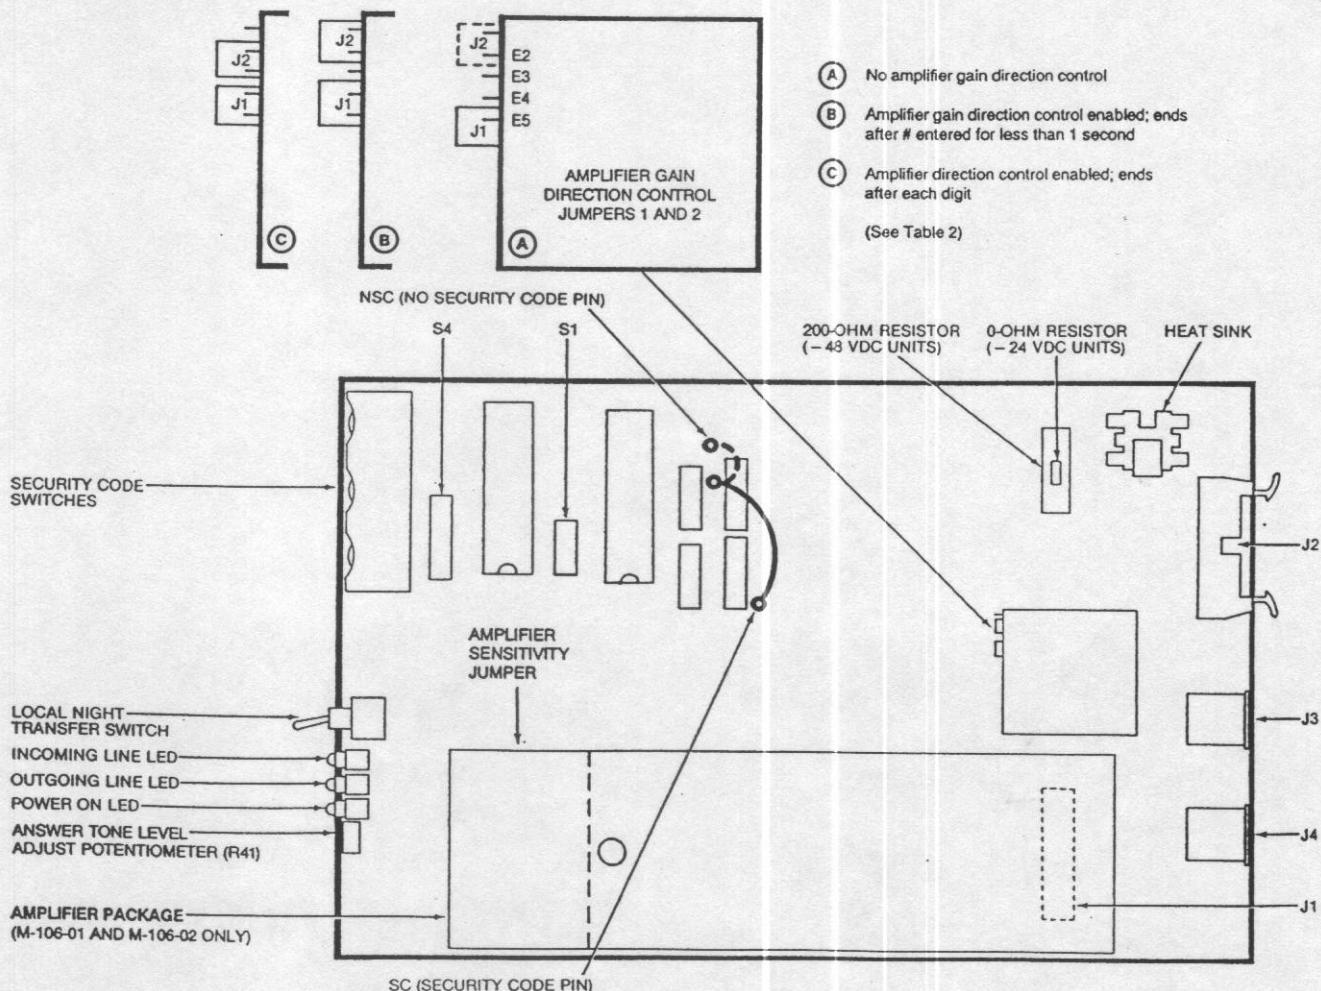

Figure 2 M-106 Circuit Card
5. Inspect the card to assure that it is undamaged. Then compare the card with Figure 2 to assure that it is correct for the application:
Note: The level of the tone can be adjusted by rotating the adjustment slot of potentiometer R41 clockwise (to increase level) or counterclockwise (to decrease level). See Figure 2.